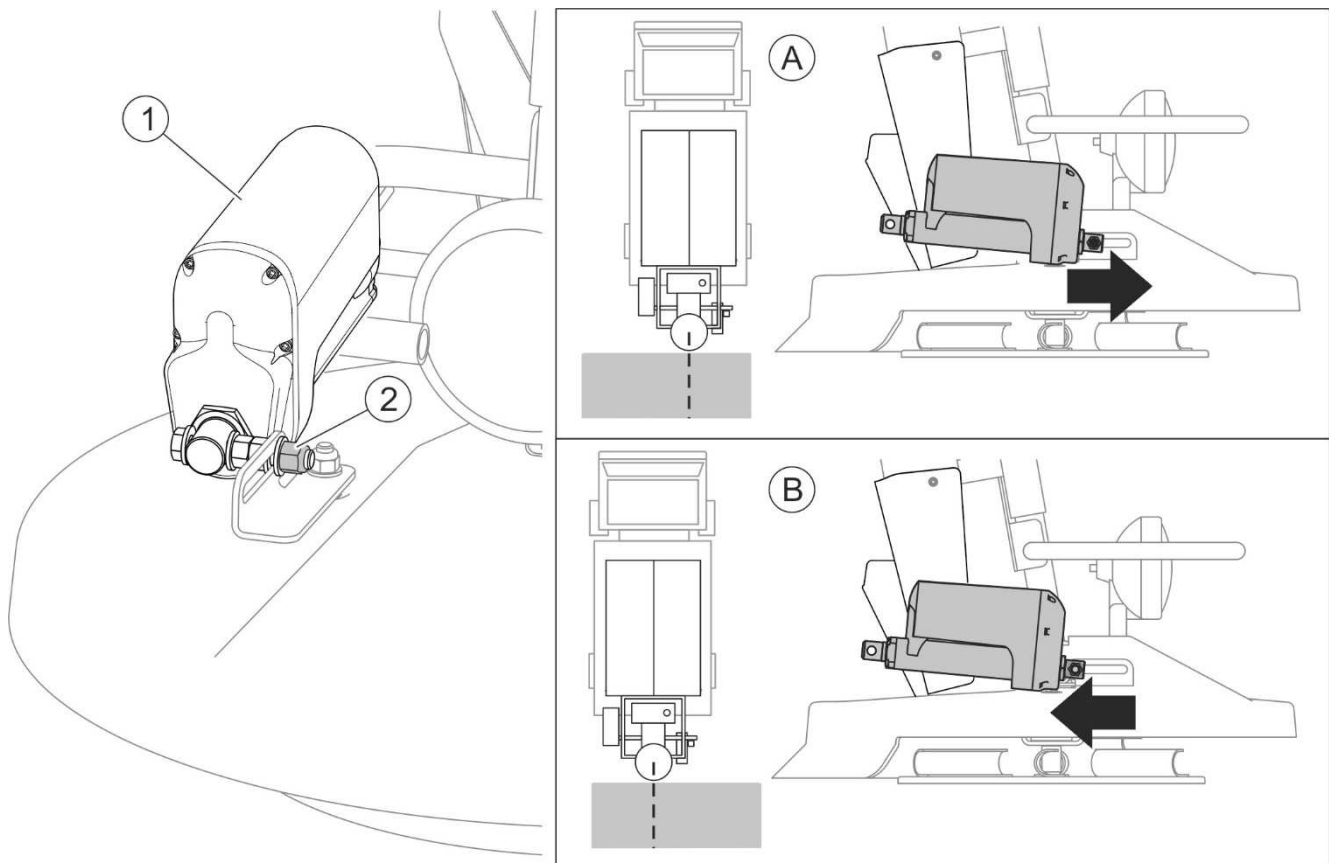

FIGURE 5.11 Adjustment of spreading mechanism
(1) - spreading direction adjusting cylinder; (2) - nut; (A) - spreading zone excessively shifted to the left, (B) - spreading zone excessively shifted to the right
In order to adjust the spreading mechanism, set symmetric 4 meter-wide spreading zone on the control panel. Activate spreading and drive a short distance at a constant speed. Stop the vehicle and check effect of spreading. If spreading to the right side and to the left side is not the same, adjust spreading direction adjusting cylinder (1) (FIGURE 5.11) as follows:
- Loosen nut (2).
- Move cylinder (1) forwards if spreading zone is excessively shifted to the left (A).
- Move cylinder (1) backwards if spreading zone is excessively shifted to the right (B).
- Tighten nut (2), conduct test spreading, if necessary, repeat the adjustment.